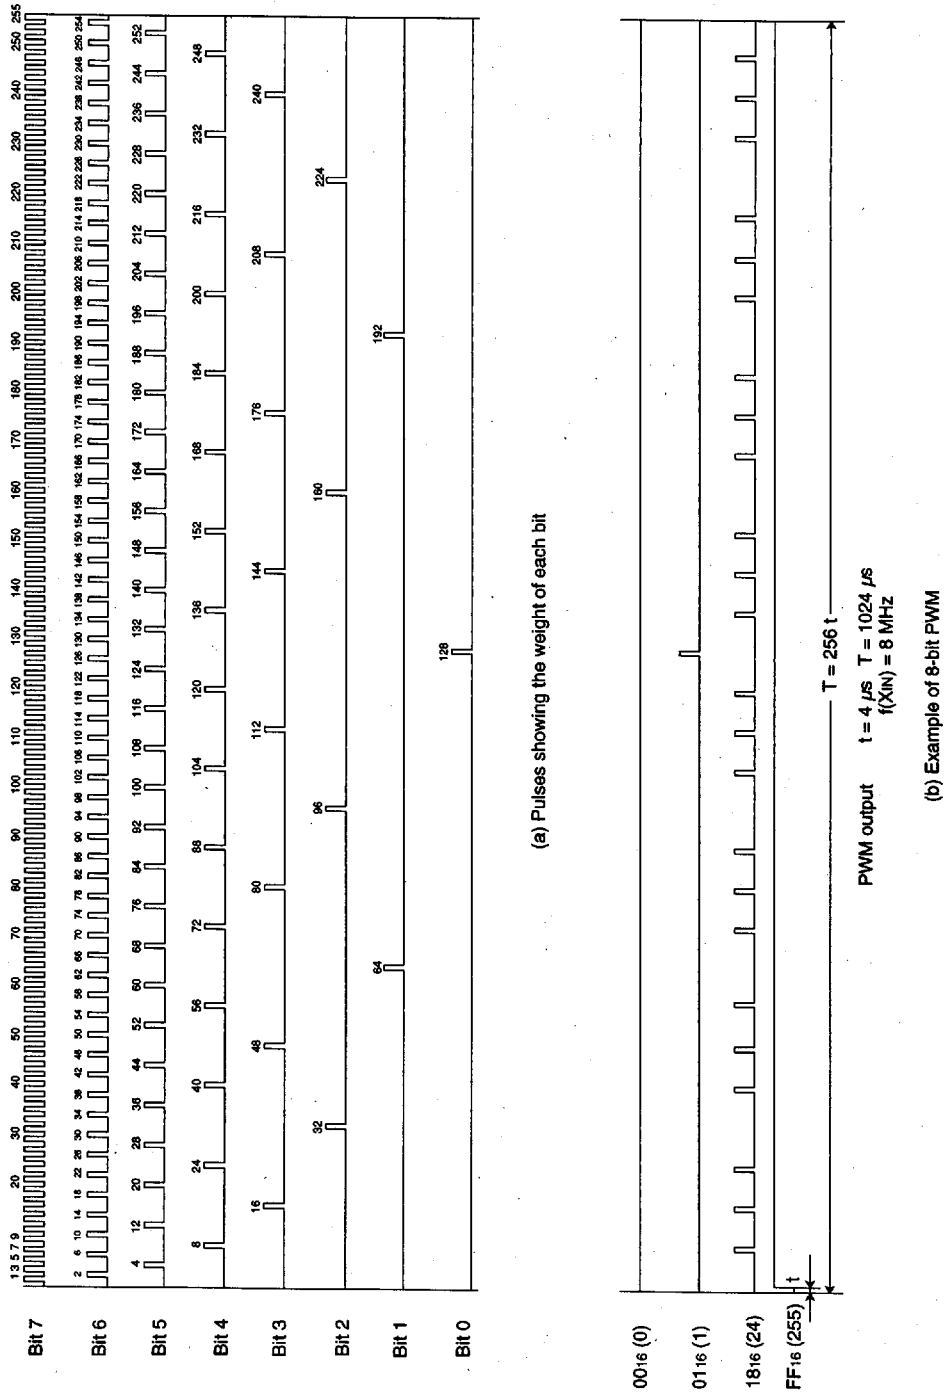

Fig. 13. 8-bit PWM timing
Figure 13 shows the 8-bit PWM timing. One cycle (T) is composed of 256 ( $2^8$ ) segments. The 8 kinds of pulses relative to the weight of each bit (bits 0 to 7) are output inside the circuit during 1 cycle. Refer to Figure 13 (a). The 8-bit PWM outputs waveform which is the logical sum (OR) of pulses corresponding to the contents of bits 0 to 7 of the 8-bit PWM register. Several examples are shown in Figure 13 (b). 256 kinds of output ("H" level area: 0/256 to 255/256) are selected by changing the contents of the PWM register. A length of entirely "H" output cannot be output, i.e. 256/256.